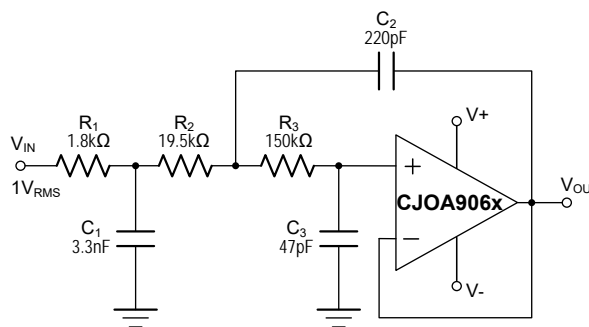

Figure 9-5. Configured as a Three-Pole, 20-kHz, Sallen-Key Filter
3. using a non-inverting filter topology, such as the Sallen-Key (shown in Figure 9-5).